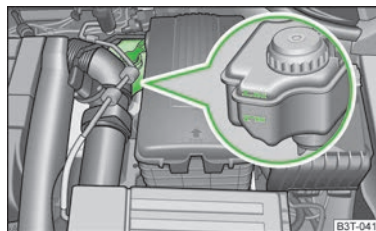

Fig. 160
- ➤ Check the level of brake fluid in the reservoir » Fig. 160. The level must be between the "MIN" and "MAX" markings.